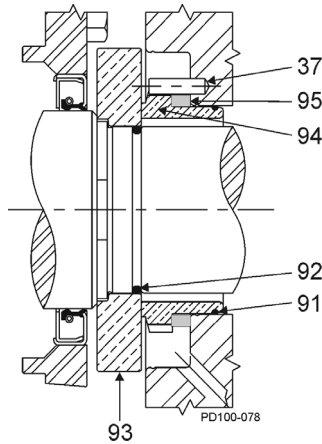
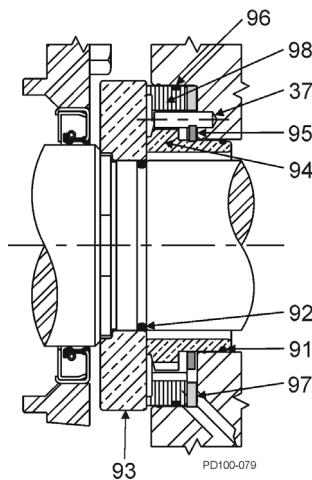
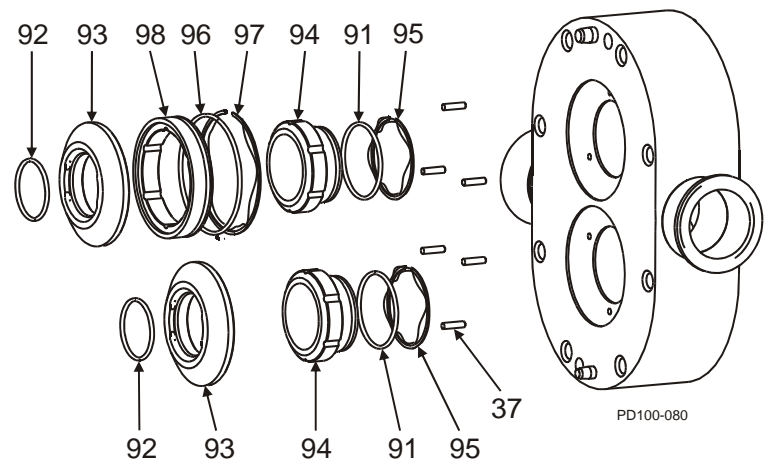

Figure 65 - Single Mechanical Seal
Figure 66 - Double Mechanical Seal
Figure 67 - Single (Bottom) and Double (Top) Mechanical Seal
Table 9: Callout table for Figure 65, Figure 66, and Figure 67
1. Lubricate the shaft o-ring (Figure 65, item 92) with a lubrication compound compatible with the o-ring material and process fluid(s). Place the o-ring on the shaft.
2. Install the rotating seal seat (item 93) on the shaft. Align the drive flats on the seat with the drive flats on the shaft.
4. Install the inner wave spring (item 95) onto the inner seal (item 94).
5. Lubricate the inner seal o-ring (item 91) with a lubrication compound compatible with the o-ring material and process fluid(s). Install the inner seal o-ring into the groove of the inner seal.
7. If a double mechanical seal is used, install the outer wave spring (Figure 66, item 97) in the body and the outer o-ring (item 96) in the outer seal groove (item 98). Place the outer seal in the pump body around the inner seal, aligning the notches in the outer seal with the stop pins in the body.